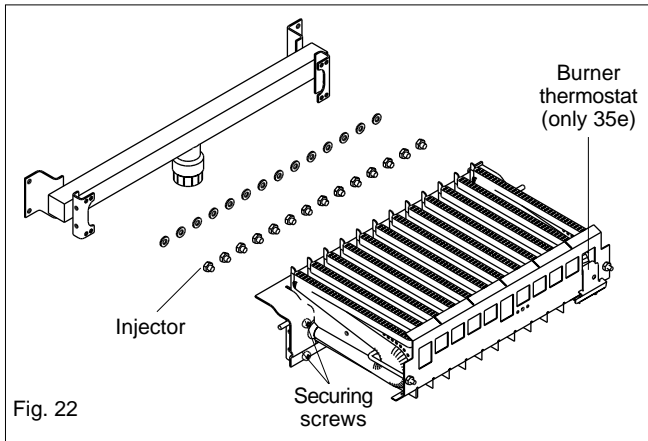

Fig. 22
6.15 BURNER, INJECTORS AND SPARK/SENSE ELECTRODE (see fig. 22)